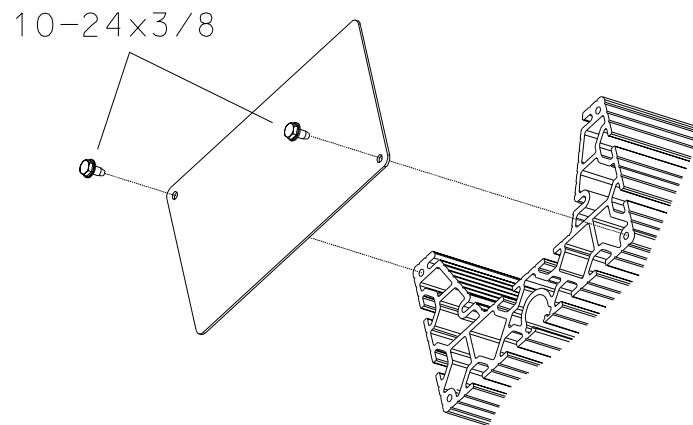

Figure 9
3. Install the top cover plate onto the support column using two (2) 10-24x3/8 self tap screws. Requires a 5/16 socket or nut driver. See Figure 9.